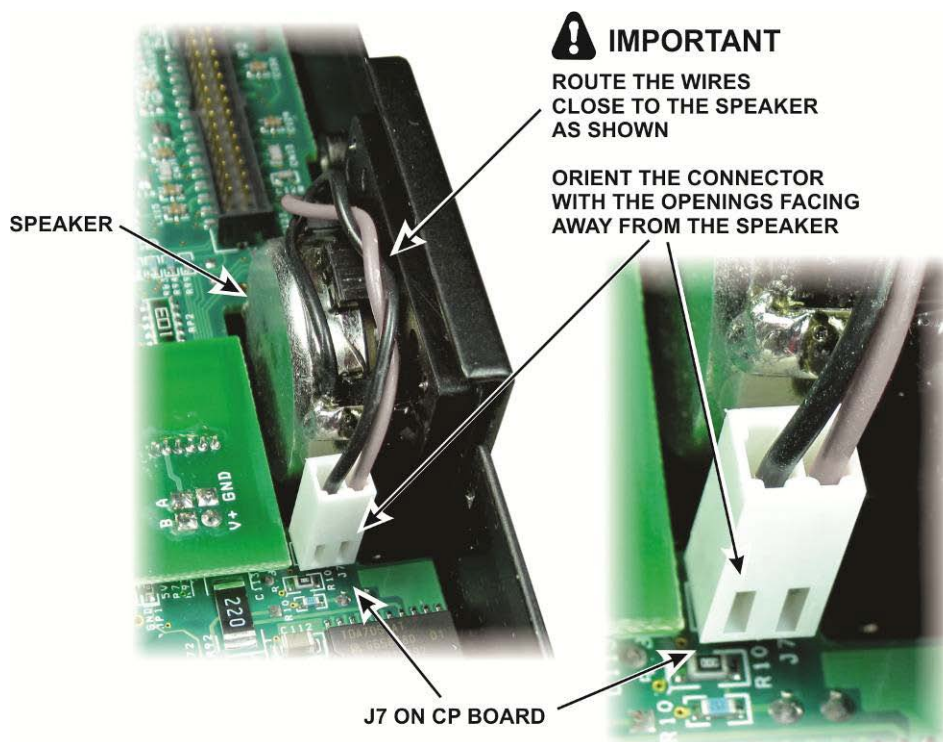

Figure 17. Connecting the Speaker to the CP Board.
- Plug the speaker connector into J7 next to the VFO encoder board (see Figure 17).
! Be certain you oriented the speaker plug as shown in Figure 17. Reversing it may result in intermittent or distorted audio from the speaker.